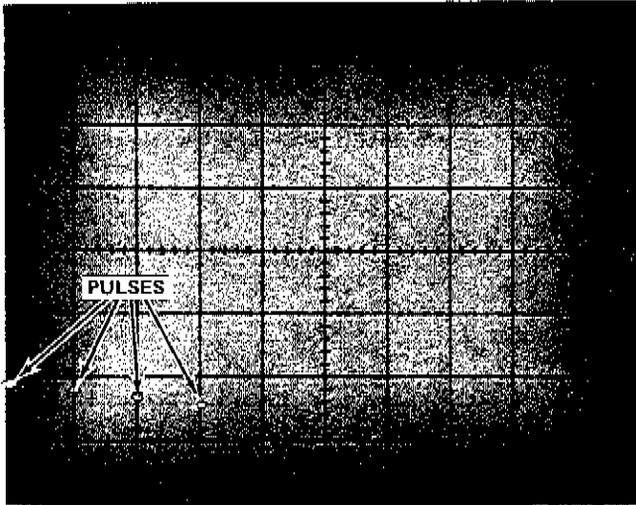

Fig. 5-9. Typical display illustrating step p.
- p. CHECK—That the base line is also a pulse (see Fig. 5-9).